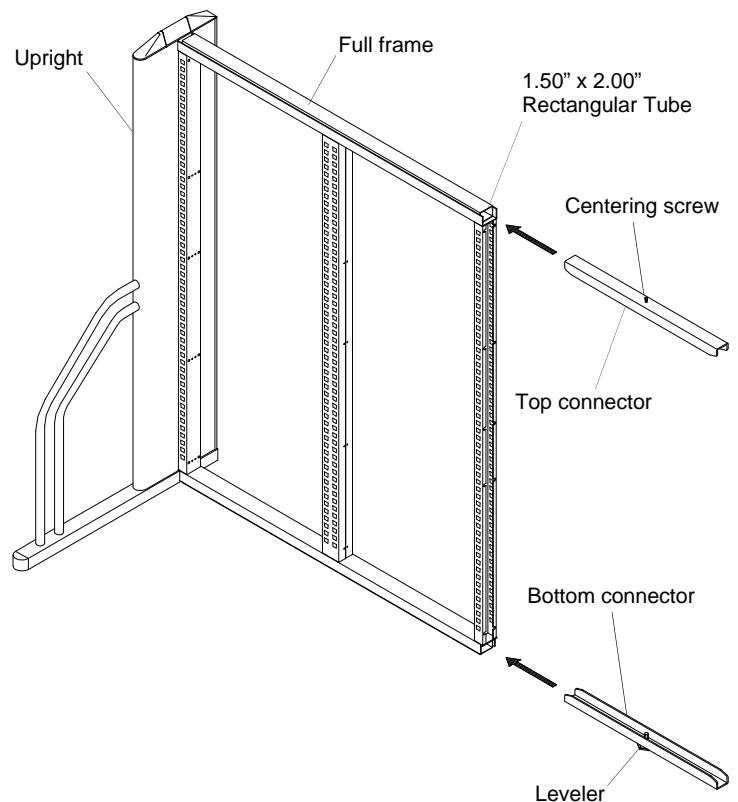

Figure 1
1. Pre-assemble a Full Frame section and Upright. See figure 1.
2. Insert the **Top Connector** into the 1.50" x 2.00" tube at the top of the frame oriented as shown in figure 1.
3. Insert the **Bottom Connector** into the 1.50" x 2.00" tube at the bottom of the frame. See figure 1.